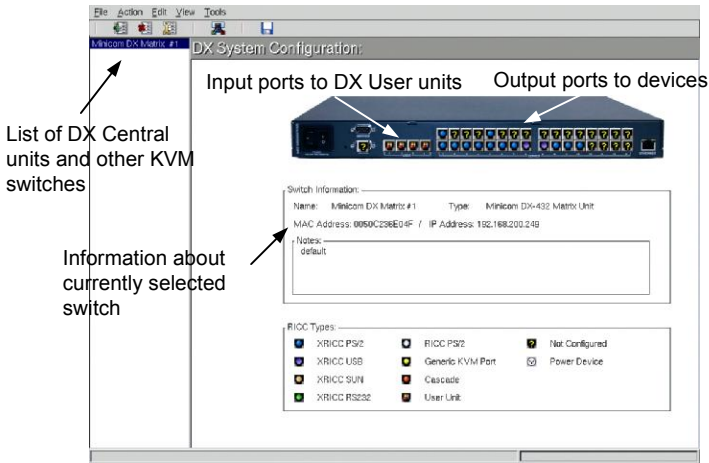

Figure 26 DX System Configuration window
1. From the View menu choose DX System Configuration. The DX System Configuration window appears. See Figure 26.